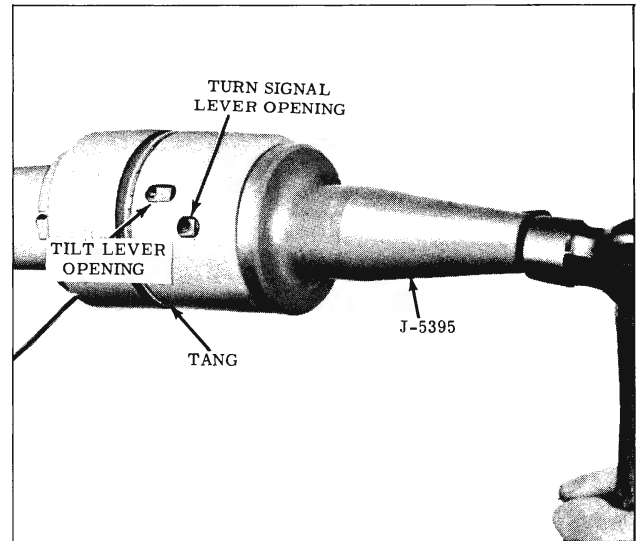

Fig. 4-109 Installing Turn Signal Cover
3. Install the turn signal cover with Tool J-5395, pinion seal installer, aligning the openings for the tilt and turn signal levers, and with the small tang on the lower edge of the cover in line with the groove in the actuator housing. (Fig. 4-109)